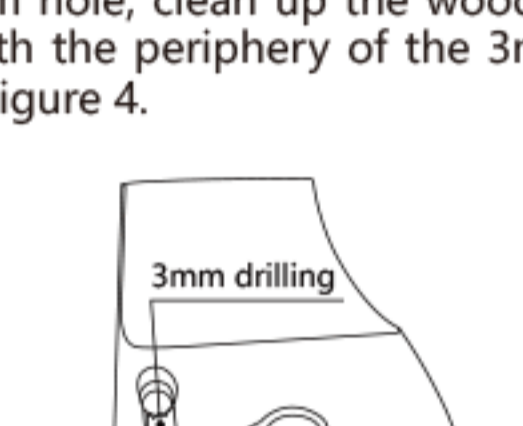

Fig.3
2. After the marking line is drawn, take out the lower string pillow. If it is difficult to remove the lower string pillow, wrap the string pillow with a rag and take it out with a vise. Use a 3mm drill bit at both ends of the bottom string groove of the piano to make a 45 degree angle Drill holes and drill through the panel. If you use a Bar-G piezoelectric probe, you need to drill a hole at each end of the groove. If you use a Bar-A piezoelectric probe, you only need to drill a hole near the 6-string end. The operation diagram is shown in Figure 3.